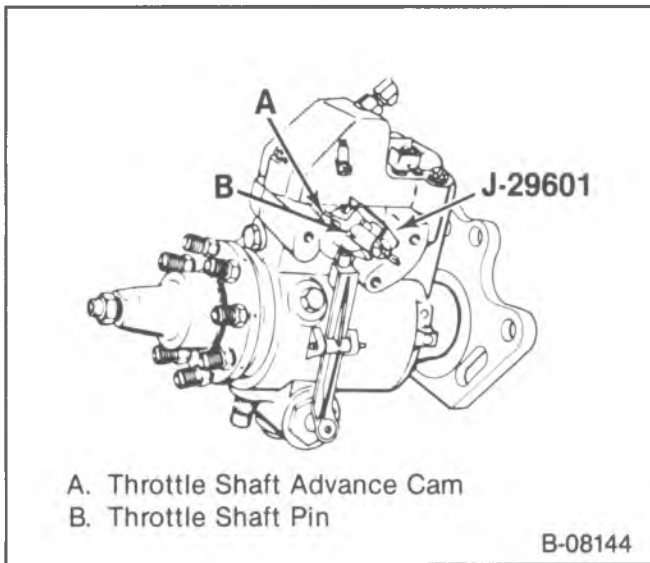

Figure 22—J-29601 Installed on Pump
- Install J-29601 over the throttle shaft with the slots on the tool engaging the pin (figure 22). Put the spring clip over the throttle shaft advance cam and tighten the wing nut. Pull the tool off of the shaft without loosening the wingnut This provides proper advance cam alignment for assembly.
4. New mylar washer, the throttle shaft advance cam, and a new throttle shaft drive pin (figure 22).
- Position the cover about 6 mm (1/4-inch) forward (toward the shaft end) and about 3 mm (1/8-inch) above the pump (figure 22).